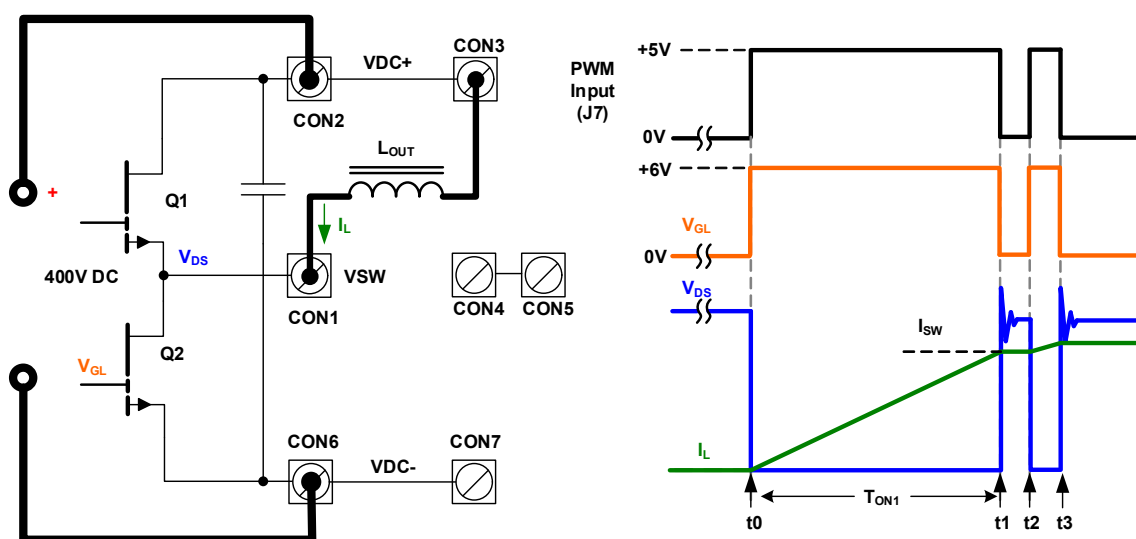
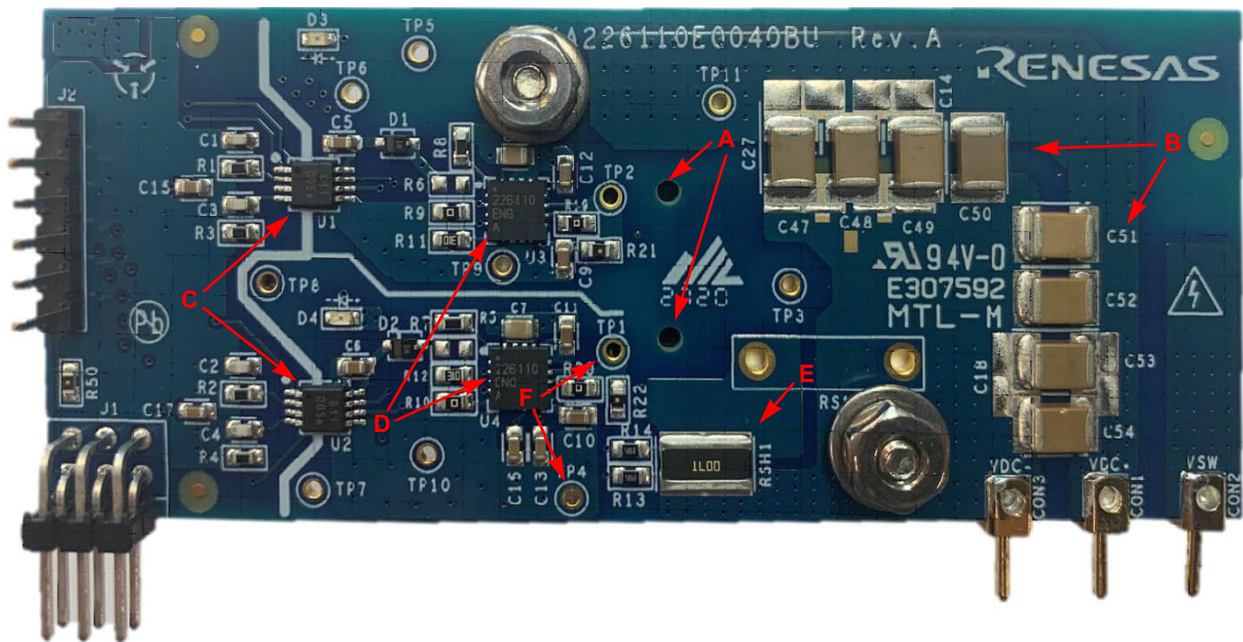

Figure 5. Double Pulse Test Setup
Figure 10. RTKA226110DE0040BU Top
The circuit configuration and operating principle is shown in Figure 5:
1. Check position E (Figure 10) on the daughter board RTKA226110DE0040BU.
- d. Set the High Voltage (HV) DC supply voltage to 0V and ensure the output is OFF. Connect the HV supply to **CON2** and **CON6**.
- c. Set up the signal generator as shown in Figure 5 to create the waveforms. Use equation $I_{SW} = (V_{DS} * T_{ON1}) / L$ to calculate the pulse width of the first pulse and ensure the I_{SW_MAX} is $\leq 40A$ at 400V_{DC}.